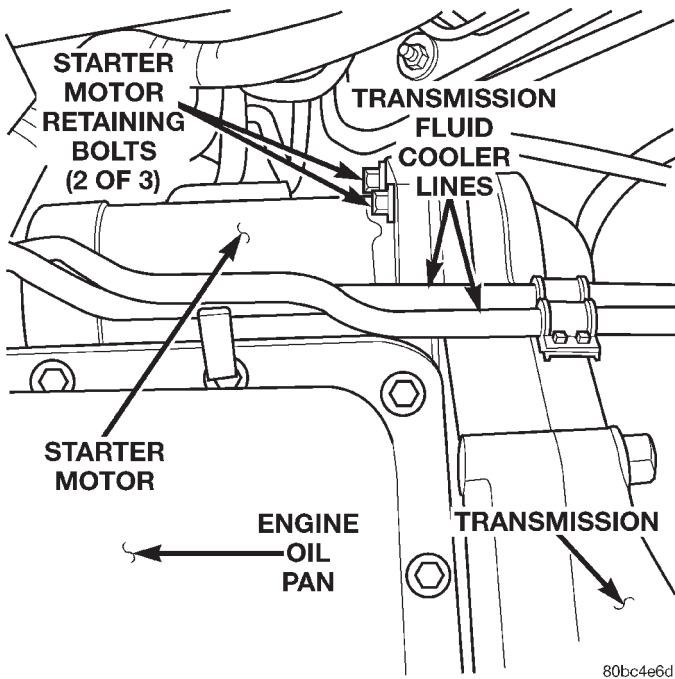

Fig. 1 Starter Motor Position & Orientation
- (4) Remove the (3) starter motor retaining bolts (Fig. 1) and remove the starter from the vehicle.